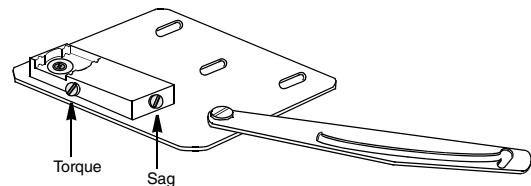

Figure 1. Undercounter Hinge Bracket for Glass Door Adjustments
On Undercounter models with hinged glass doors, you can use a regular screwdriver to adjust spring tension and center each door on its frame. The adjustment screws ("torque" for tension and "sag" for door placement) are located on the bottom hinge bracket (shown below in Figure 1).
- Unscrew 1/2" bolt until there is the required clearance between floor and head of bolt as shown in Figure 1